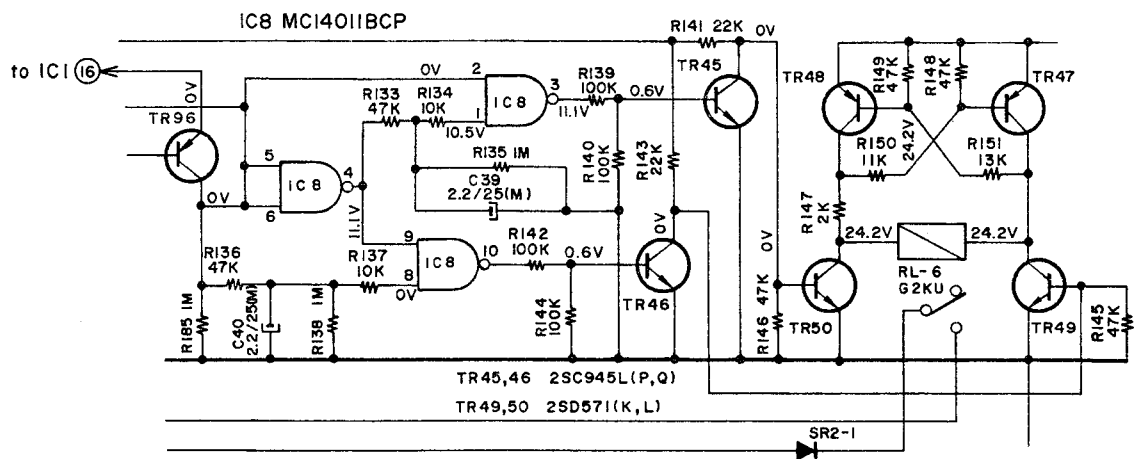

Fig. 27
h) Reverse Holding Circuit (Refer to Fig. 27)